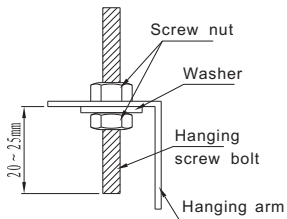

Fig15
- Locate the hanging arm on the hanging screw bolt (Refer to Fig15)